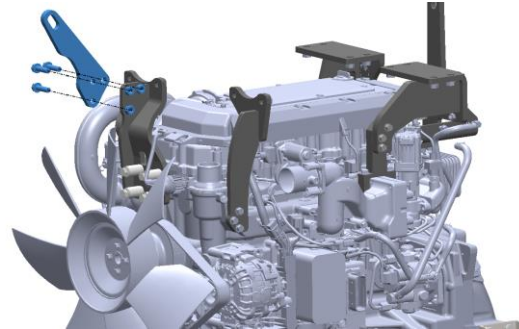

Figure 8
8. Install the engine lighting eye, fan side (7) on the ATD mount bracket (4) as shown in the figure 8 using M12X40 (16) bolts.